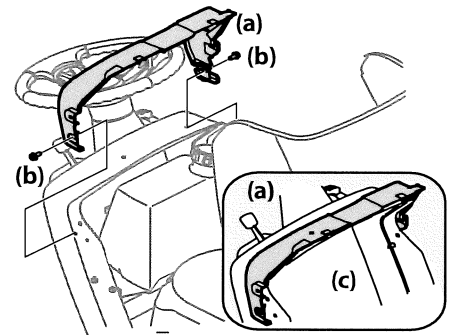

Figure 2-7
1. If the dash shroud (a) was shipped loose, the hardware for attaching the dash shroud (a) is shipped installed in the dash (c). Remove the two bolts (b) from the dash (c). See Figure 2-7.
2. Mount the dash shroud (a) and align the mounting holes. See Figure 2-7.
3. Secure the dash shroud (a) to the dash (c) with the bolts (b) removed in Step 1. See Figure 2-7.